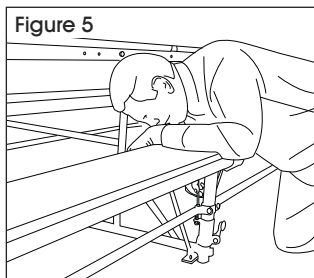

Figure 5
- With the table opened to the in-use position, apply weight onto bench top until center leg touches the floor. (See Figure 5)